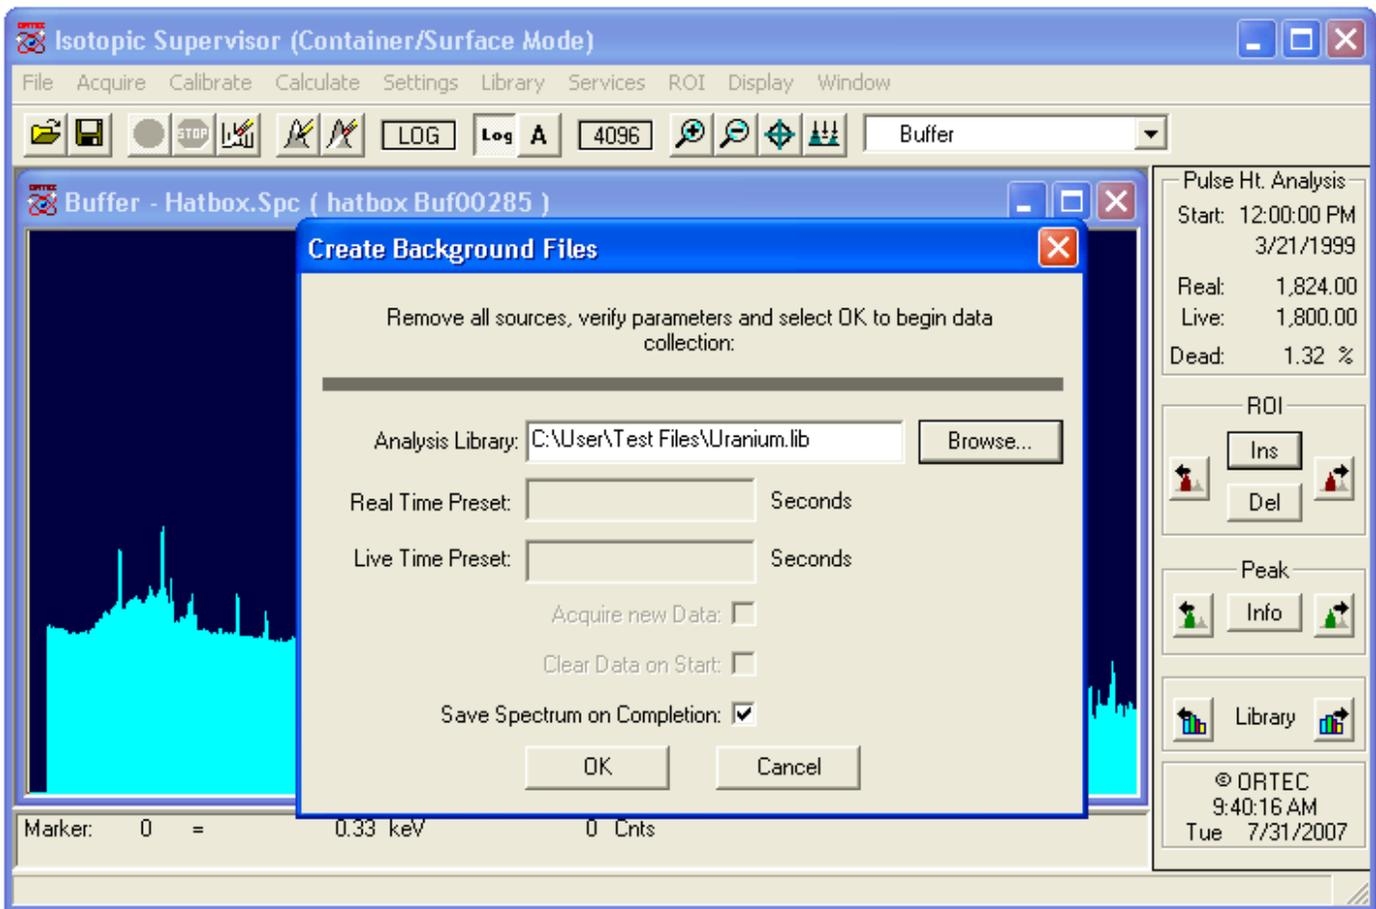

Figure 110. Creating a .PBC File from an Archived Spectrum File.
- Select **Create PBC...** This will open the dialog shown in Fig. 110. Browse for the **Analysis Library**. This will normally be a library of background nuclides.